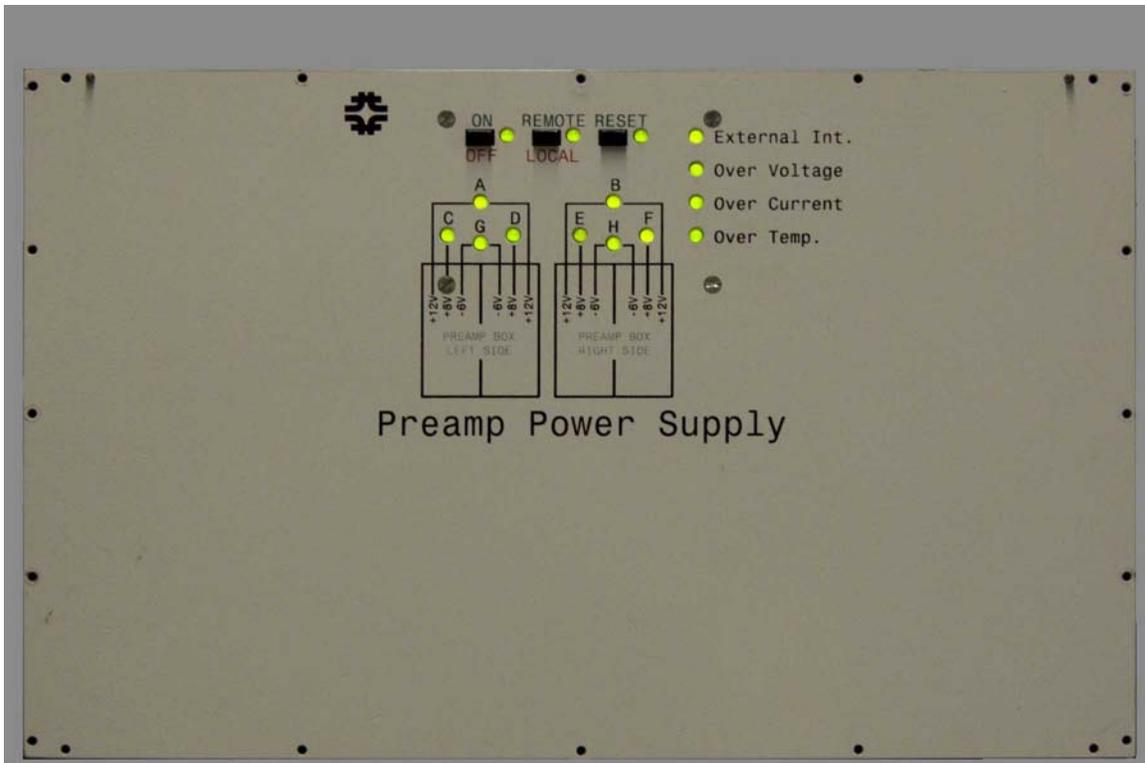

Figure 1. Front Panel of Calorimeter Pre-amp Power Supply.
- Press the “Local / Remote” button for both the Power Supply to be disconnected and it’s partner (Primary and Secondary Power Supplies can each provide power to the Pre-amp Crate.) until the status indicator to the right of the button is illuminated Red, indicating the power supply is under “Local” control. Press the “On / Off” button for both the Power Supply to be replaced and it’s partner until the status indicator to the right of the button is illuminated Red, indicating at the Power Supply is Off. (See picture of front panel in Figure 1.)